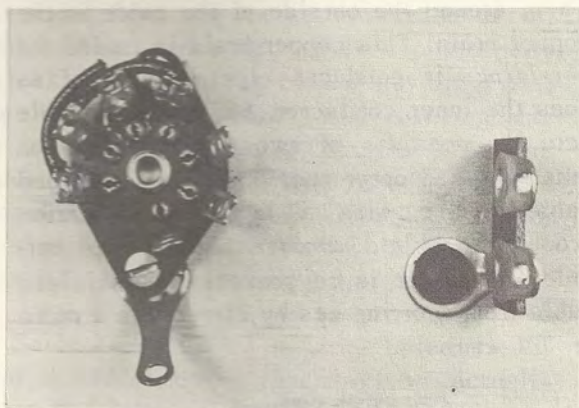

Fig. 2-9
Step 1. There are still three blank lugs on the tube socket you are using. Mount the tie terminal, with the wood screw, about one inch away from the socket, with the broad side of the strip facing lugs #5, #6, and #7. Figure 2-9 shows how this arrangement should look.